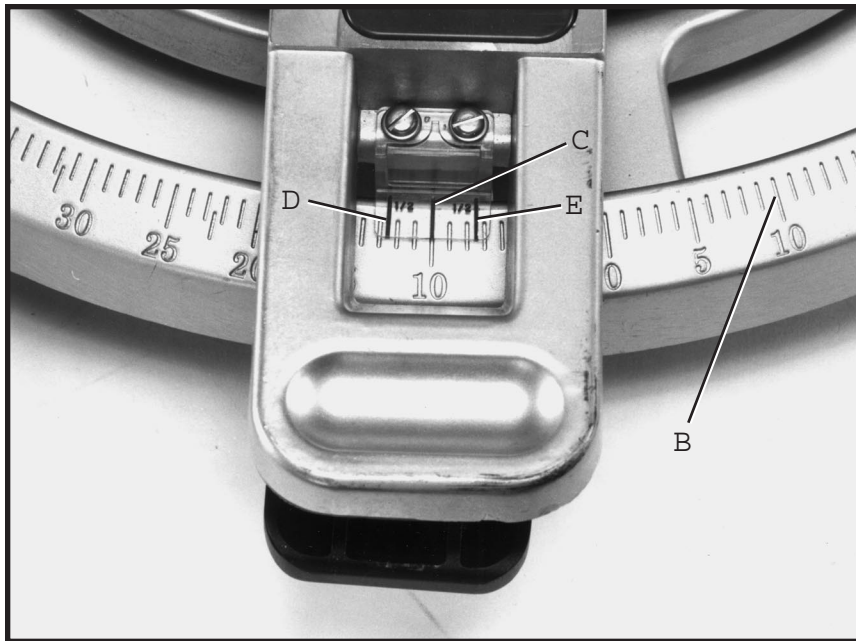

Fig. 18
3. The compound miter saw is equipped with spring-loaded positive stops at the 90 degree straight cut-off position and at the 15, 22.5, 31.62 and 45 degrees right and left miter positions. These spring-loaded positive stops can be felt as you are rotating the table. NOTE: The 31.62 degree right and left miter positive stops are used when cutting crown moulding as explained later in this manual. A large scale (B) Fig. 18, and cursor (C) is provided for intermediate angles.
4. The center line (C) Fig. 18, on the cursor indicates the actual angle of cut. Each line on the scale (B) represents one degree. In effect, when the center line (C) is moved from one line to the next on the scale, the angle of cut is changed by one degree.
5. The pointer is provided with two additional lines (D) and (E) Fig. 18. This allows you to move the control arm exactly 1/2 degree. For example, assume the center line (C) is pointing to the 10 degree mark on the scale, as shown, and you want to change the angle of cut 1/2 degree to the right. Move the control arm until the right line (E) lines up with the next line on the scale. The angle of cut will then be changed 1/2 degree to the right. If you were changing the angle of cut 1/2 degree to the left, use the left line (D) in the same manner.